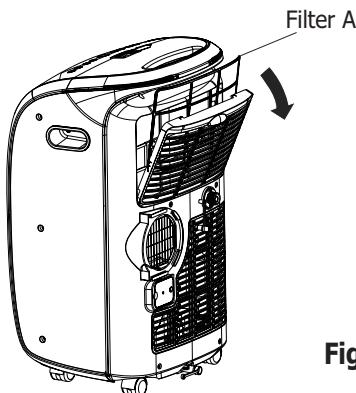
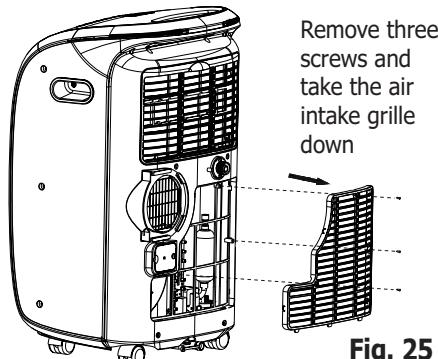

Fig. 24
Fig. 25
- This unit has two filters, they are filter A and B. Grasp the upper panel tab and take off the filter A which behind the grill of the back panel (Fig.24). Remove the lower filter B by loosening the screws. Take down the air inlet grille, then remove the air filter as shown in Fig.25 & 26.